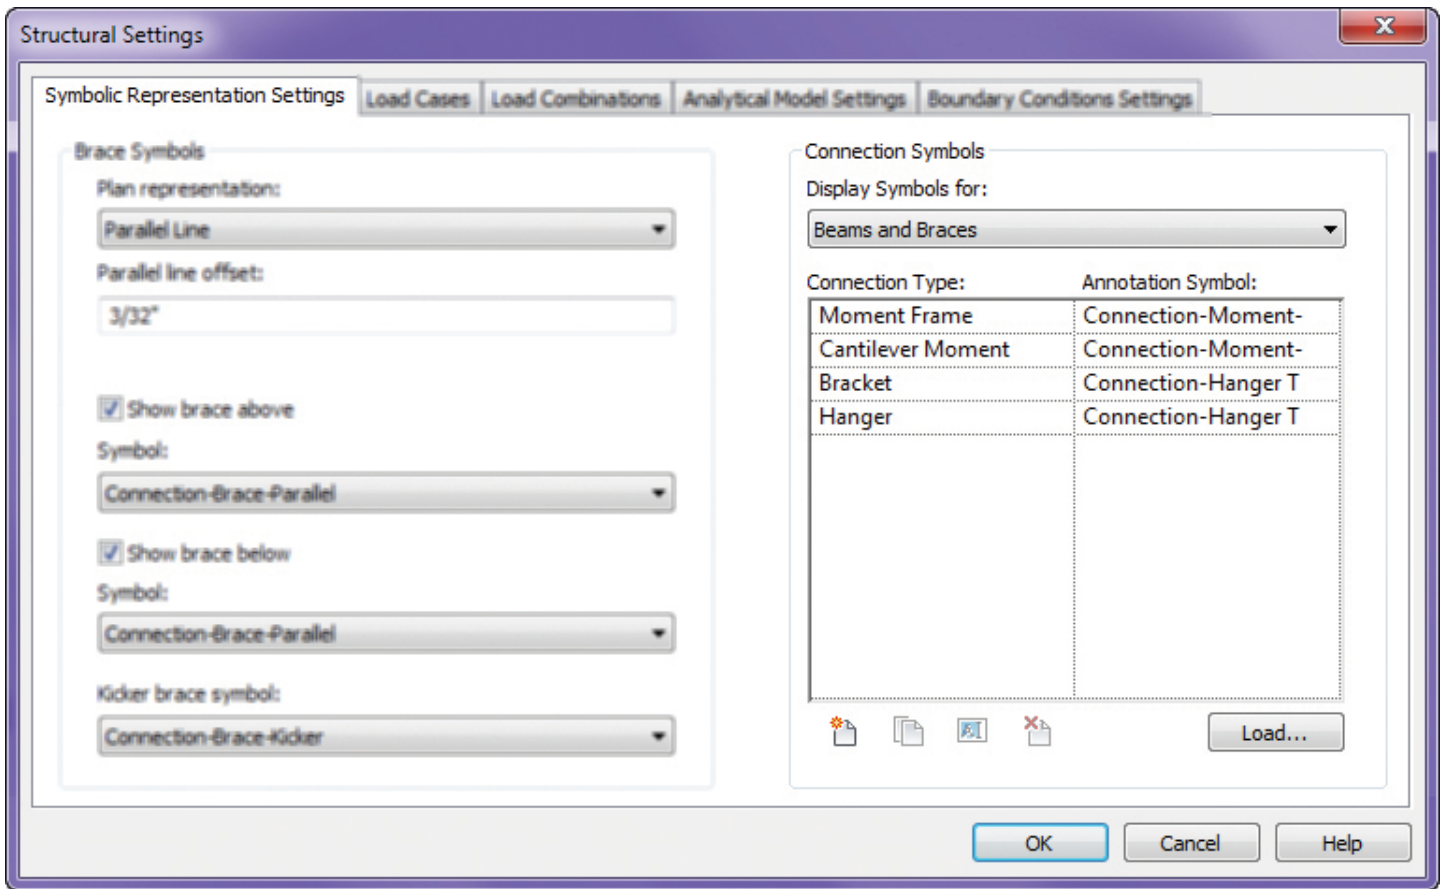

Figure 10
- Once the symbol is created, load the family into the project or project template. In Structural Settings, go to the Symbolic Representation Settings tab and add a new Connection Symbol for Beams and Braces. Once the new Connection Type is created, choose the appropriate symbol (see Figure10).